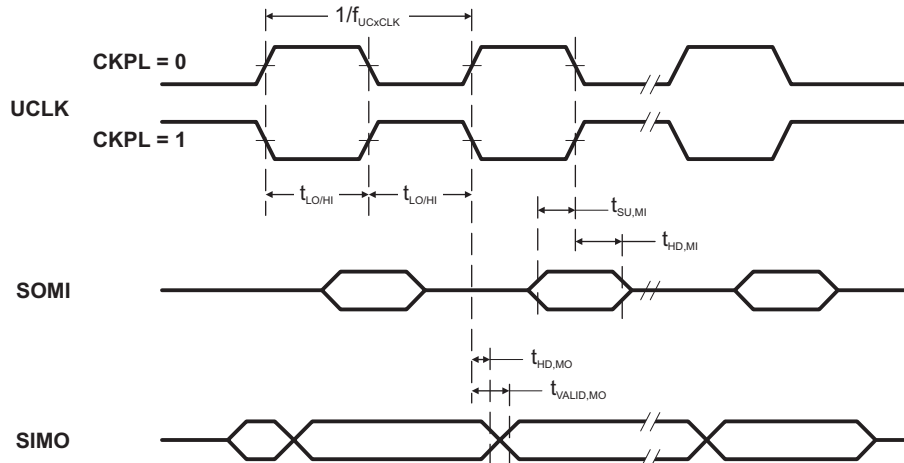
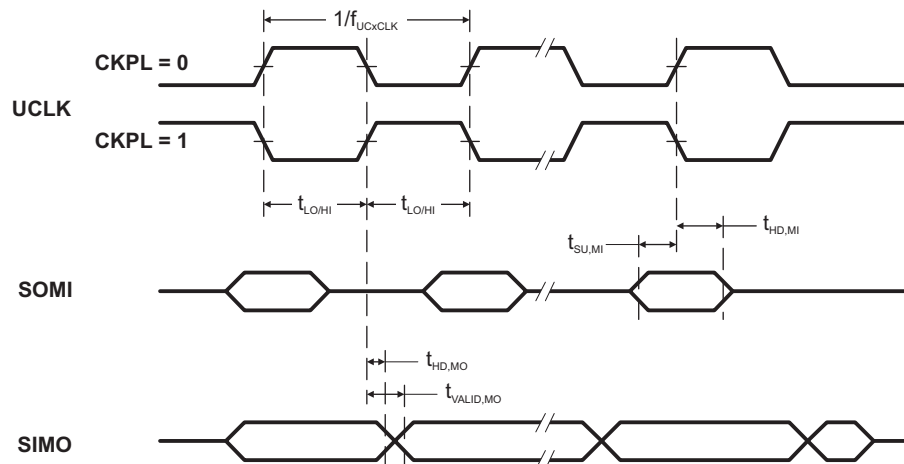

Figure 15. SPI Master Mode, CKPH = 0
Figure 16. SPI Master Mode, CKPH = 1
(see Note (1), Figure 15 and Figure 16)
- (2) Specifies the time to drive the next valid data to the SIMO output after the output changing UCLK clock edge. See the timing diagrams in Figure 15 and Figure 16.
- (3) Specifies how long data on the SIMO output is valid after the output changing UCLK clock edge. Negative values indicate that the data on the SIMO output can become invalid before the output changing clock edge observed on UCLK. See the timing diagrams in Figure 15 and Figure 16.
- (2) Specifies the time to drive the next valid data to the SOMI output after the output changing UCLK clock edge. See the timing diagrams in Figure 15 and Figure 16.
- (3) Specifies how long data on the SOMI output is valid after the output changing UCLK clock edge. See the timing diagrams in Figure 15 and Figure 16.